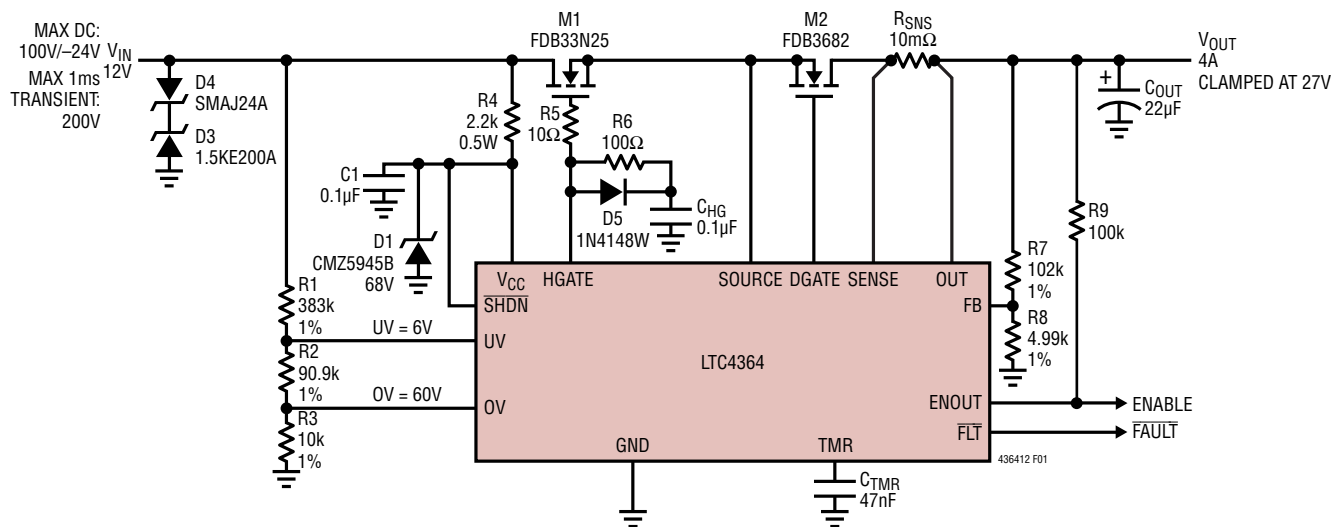

Figure 1. 4A, 12V Overvoltage Output Regulator with Reverse Current Protection
**$\Delta V_{HGATE}$  vs  $V_{IN}$  in Figure 1**
**$\Delta V_{DGATE}$  vs  $V_{IN}$  in Figure 1**
The LTC4364 drives an N-channel MOSFET (M1) at the HGATE pin to limit the voltage and current to the load circuitry during supply transients or overcurrent events. The selection of M1 is critical for this application. It must stay on and provide a low impedance path from the input supply to the load during normal operation and then dissipate power during overvoltage or overcurrent conditions. The LTC4364 also drives a second N-channel MOSFET (M2) at the DGATE pin as an ideal diode to protect the load from damage during reverse polarity input conditions, and to block reverse current flow in the event the input collapses. A typical application circuit using the LTC4364 to regulate the output at 27V during input surges with reverse input protection is shown in Figure 1.
Input overvoltage is detected with the OV pin and an external resistive divider connected to the input (Figure 1). At power-up, if the OV pin voltage is higher than its 1.25V threshold before the 100 $\mu\text{s}$  internal power-on-reset expires, or before the input undervoltage condition is cleared at the UV pin, the HGATE pin will be held low until the OV pin voltage drops below its threshold. To prevent start-up in the event the board is hot swapped into an overvoltage supply, separate resistive dividers with filtering capacitors can be used for the OV and UV pins (Figure 2). The RC constants should be skewed so that  $\tau_{\text{UV}}/\tau_{\text{OV}} > 50$ . In Figure 2, if the board is plugged into a supply that is higher than 60V, the LTC4364 will not turn on the pass devices until the supply voltage drops below 60V.
The LTC4364 detects input undervoltage conditions such as low battery using the UV pin. When the voltage at the UV pin is below its 1.25V threshold, the HGATE pin pulls low to keep the pass device off. Once the UV pin voltage rises above the UV threshold plus the UV hysteresis (50mV typical), the HGATE pin is allowed to pull up without going through a timer cycle. In Figure 1 and Figure 2, the input UV threshold is set by the resistive dividers to 6V. An undervoltage condition does not produce an output at the  $\overline{\text{FLT}}$  pin.
The LTC4364 drives two N-channel MOSFETs, M1 and M2, as the pass devices to conduct the load current (Figure 1). The important features are on-resistance,  $R_{\text{DS(ON)}}$ , the maximum drain-source voltage,  $V_{(\text{BR})\text{DSS}}$ , the threshold voltage, and the safe operating area, SOA (for M1).
The added gate capacitor slows down the turn-off time during fault conditions and allows higher peak currents to build up during an output short event. If this is a concern, an extra resistor,  $R_6$ , in series with  $C_{HG}$  can restore the turn-off time. A diode,  $D_5$ , should be placed across  $R_6$  with the cathode connected to  $C_{HG}$  as shown in Figure 1. In a fast transient input step,  $D_5$  provides a bypass path to  $C_{HG}$  for the benefit of holding HGATE low and preventing self enhancement.
The LTC4364 is tested to operate to 80V and guaranteed to be safe from damage between 100V and  $-40\text{V}$ . Voltage transients above 100V or below  $-40\text{V}$  may cause permanent damage. During a short-circuit condition, the large change in current flowing through power supply traces coupled with parasitic inductances from associated wiring can cause destructive voltage transients in both positive and negative directions at the  $V_{CC}$ , SOURCE, and OUT pins. To reduce the voltage transients, minimize the power trace parasitic inductance by using short, wide traces. A small RC filter (R4 and C1 in Figure 1) at the  $V_{CC}$  pin filters high voltage spikes of short pulse width.
Another way to limit supply transients above 100V at the  $V_{CC}$  pin is to use a Zener diode and a resistor, D1 and R4, as shown in Figure 1. D1 clamps voltage spikes at the  $V_{CC}$  pin while R4 limits the current through D1 to a safe level during the surge. In the negative direction, D1 along with R4 clamps the  $V_{CC}$  pin near GND. The inclusion of R4 in series with the  $V_{CC}$  pin increases the minimum required supply voltage due to the extra voltage drop across the resistor, which is determined by the supply current of the LTC4364 and the leakage current of D1. 2.2k adds about 1V to the minimum operating voltage.
For sustained, elevated supply voltages, the power dissipation of R4 in Figure 1 becomes unacceptable. This can be resolved by using an external depletion mode N-channel MOSFET to replace R4 (M1 in Figure 7a) or using an external NPN transistor (Q1 in Figure 7b) as a buffer. To protect Q1 against supply reversal, block the collector of Q1 with a series diode or tie it to the cathode of D3 and D4 in Figure 1.